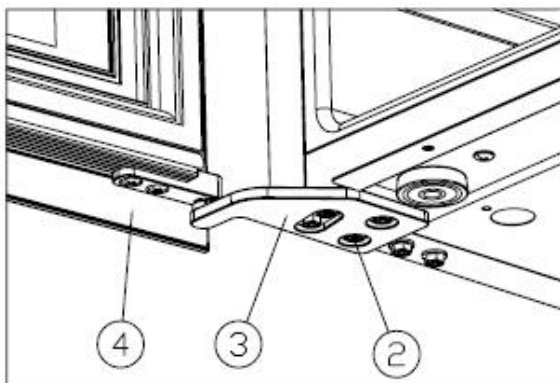

Figure 5
- ✧ Install the right upper hinge ③, and screw tight the M5*16 screws ②.[Figure 5]